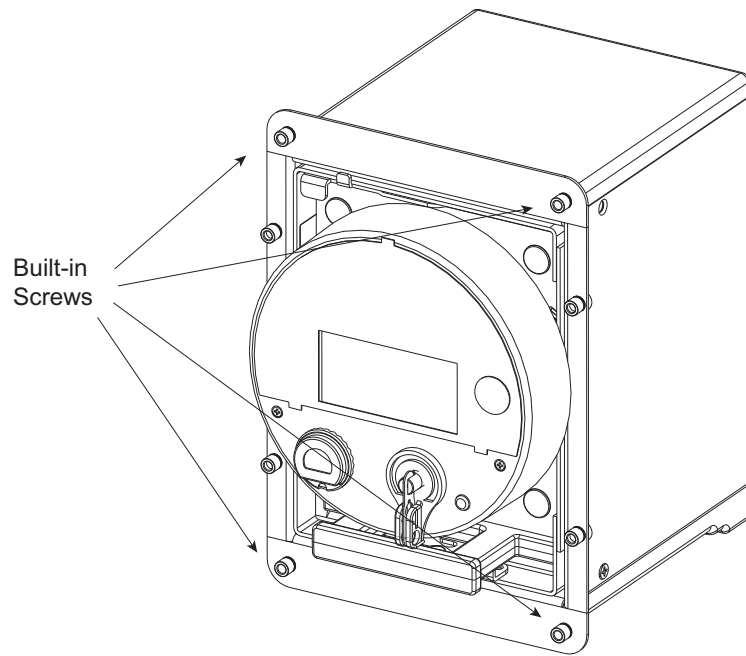

Figure 12.7: Switchboard Case Front Showing 4 Screw Holes
3. Position the Switchboard case front against the four screw holes and secure it by turning the four built-in screws in each of the corners. See Figure 12.7.
1. Attach the switchboard meter to the retrofit panel, using the built-in switchboard screws (see Figure 12.7).